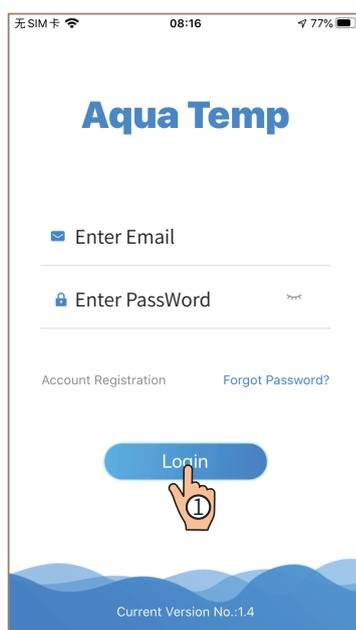

Fig.1 Login interface
Log in: Follow the instructions on the page(Fig.1), enter your registered email address and password, click ① and jump to device list;